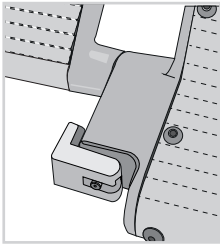

Figure 4a
2. Open the right and left blocking device (Figure 4a,b (SAN-0125) 4c,d (SAN-0288)).